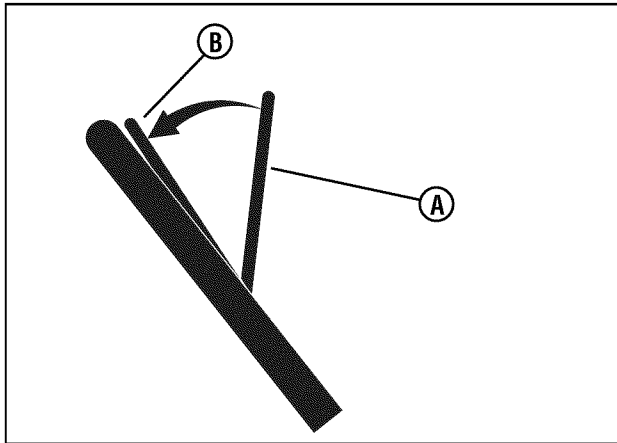

Figure 11: Operating the engine stop lever
Release the engine stop lever (**A, Figure 11**) and the engine and the blade will automatically stop. To run the engine, hold the engine stop lever in the Operating position (**B**).
1. Hold the engine stop lever (**A, Figure 11**) in the Operating Position (**B**).